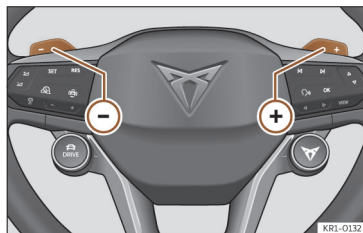

Fig. 107 Multi-function steering wheel: energy recuperation levers.
- Pressing the steering wheel levers + or – temporarily activates the manual selection of the energy recuperation level. >>> **Fig. 107** Automatic recuperation is reactivated by pressing the accelerator pedal again.
- Select the energy recuperation level with the steering wheel levers + or – >>> **Fig. 107**.